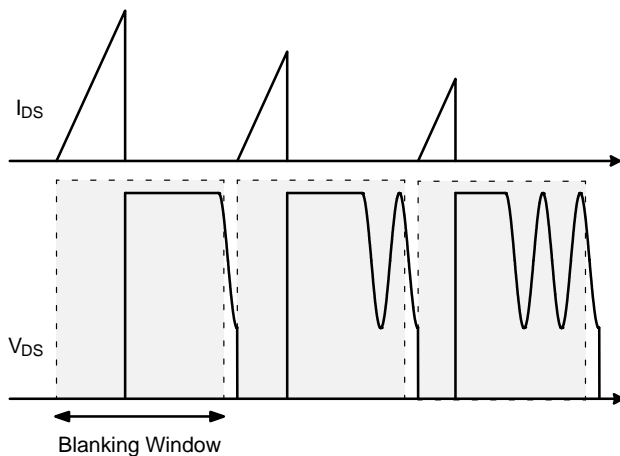
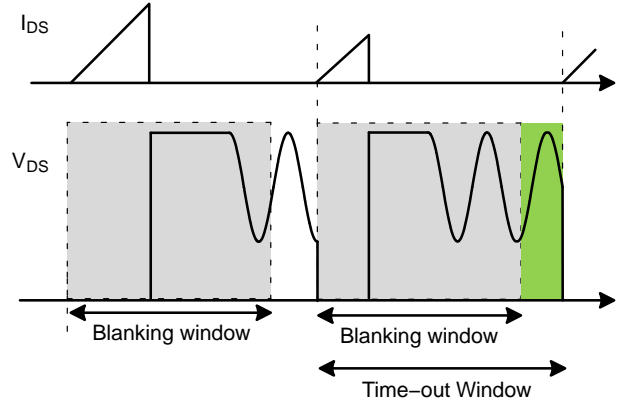

Figure 19. Valleys Formed by Resonant Ringing Increase in Number as Load Decreases
Figure 20. Blanking Window and Time-out Window Limit the Frequency Range
Quasi-resonant (QR) switching is a method to reduce MOSFET switching losses especially in high line. In order to perform QR turn-on of the Primary MOSFET, the valley of the resonance occurring between transformer magnetizing inductance ( $L_m$ ) and MOSFET effective output capacitance ( $C_{oss,eff}$ ) must be detected. Typically, during the turn-off time, there can be several valleys as the load reduces as shown in Figure 19. In order to limit the maximum switching frequency, a blanking window is introduced. To limit the minimum switching frequency, the maximum allowable time or Time-out window is fixed. These two windows allow the flyback converter to operate in a narrow user-configurable frequency range. Figure 20 shows these two windows in a switching cycle. In FAN6080HMX, the time-out window ( $f_{OSC-MIN-DCM}$ ) is the same as the minimum frequency for CRM ( $f_{OSC-MIN-CRM}$ ), which is 21.5 kHz.